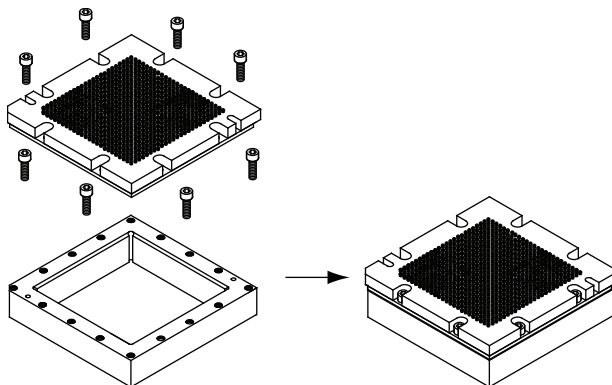

Figure 4 • View of Ceramic Adapter Fastened to Socket Housing Using the Screws Provided
2. Fasten the socket housing to the ceramic adapter using eight of the screws provided (Figure 4).